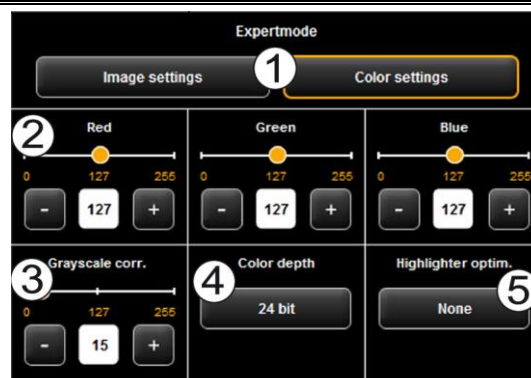

Figure 5.28: Expert mode - Color settings
1. *Image settings / Color settings*: If you switch to "Color settings", you access another submenu (see Figure 5.28).
3. *Gamma*: Adjust the gamma curve (setting range 1...25, 17: neutral). This setting should not be changed because the default value (17) perfectly matches the scanner's color space.